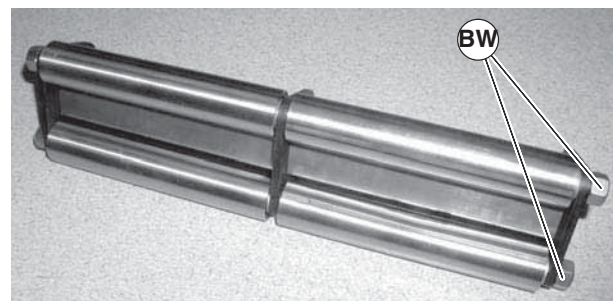

Figure 58
5. Remove hex nuts (Figure 58, item BW).